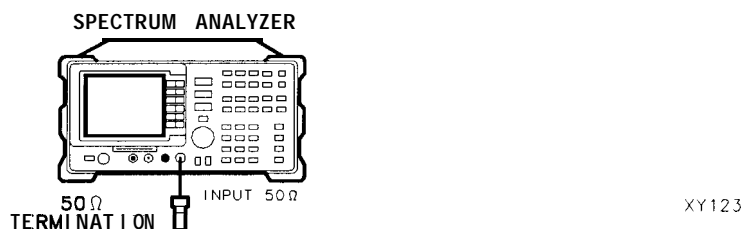

Figure 1-24. Residual Response Test Setup
1. Connect the termination to the spectrum analyzer input as shown in Figure 1-24.